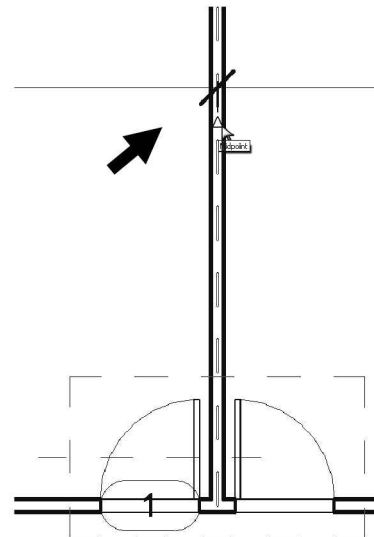

FIGURE 2-2.8 Copy – first point with midpoint symbol visible
- a. *First pick*: midpoint/centerline of wall (see Figure 2-2.8);